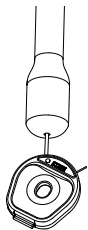
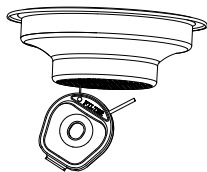

Fig. 9: Clean the steam tube (6) with thicker pin
Fig. 10: Clean the filters (13, 14) with thinner pin
The cleaning pin (17) is used for cleaning steam spouts and filters. The thicker pin is for cleaning the steam tube (Fig. 9), and the thinner one is for filters (Fig.10).